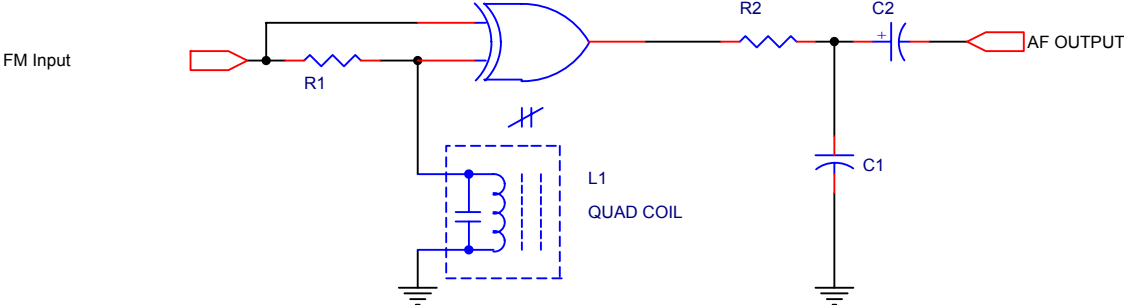

Figure 9-11: The Quadrature Detector
The quadrature detector of Figure 9-11 is a simple digital FM detector. It is perhaps the simplest of the FM detectors; like the PLL, it provides built-in limiting action through a Schmitt-trigger input, and can be implemented on an IC chip.
- 9-18 Explain how to align the quadrature detector of Figure 9-11.